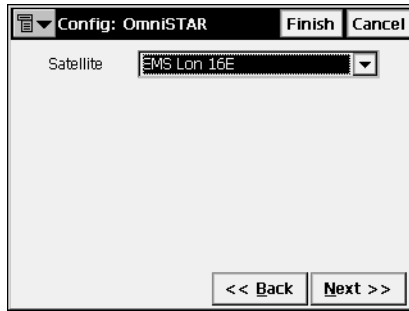

Figure 3-34. Config: OmniSTAR
- For OmniSTAR-VBS and OmniSTAR-HP (a wide-area, satellite delivered, differential Virtual Base Station and High Performance GPS services), set the name of the satellite to be used (Figure 3-34).